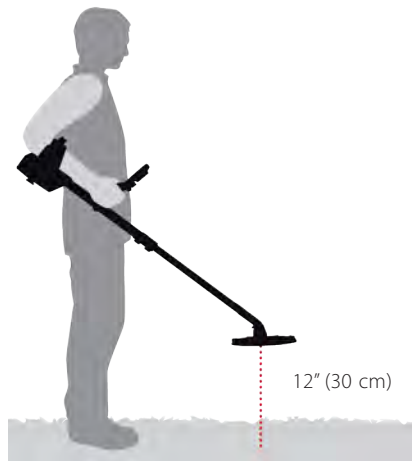

Figure 17 – Correct detector position for Noise Cancel
1. Make sure there are no large targets or obvious sources of EMI close by, and hold the detector coil 12 inches (30 centimeters) above the ground (Figure 17).
1. Make sure there are no large targets or obvious sources of EMI close by, then hold the detector 12 inches (30 centimeters) above the ground (Figure 17).